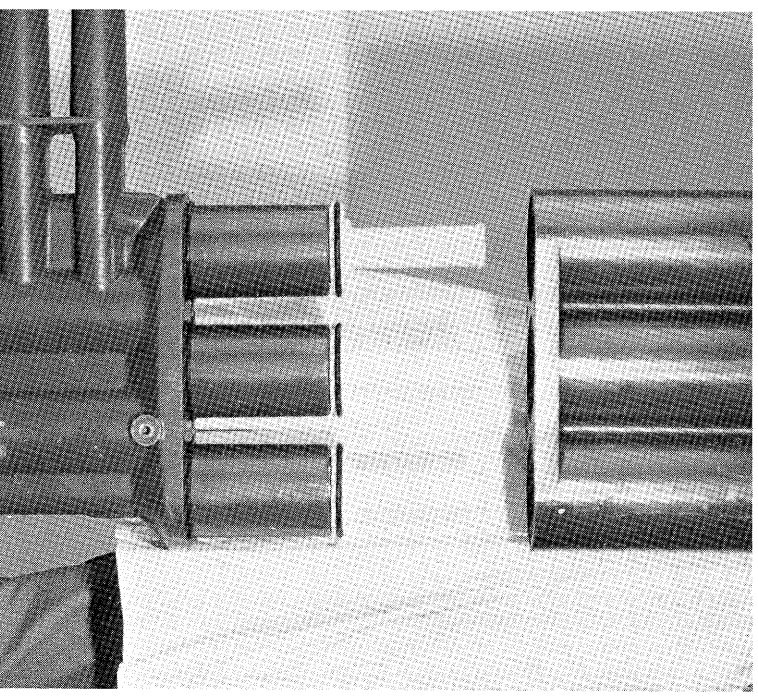
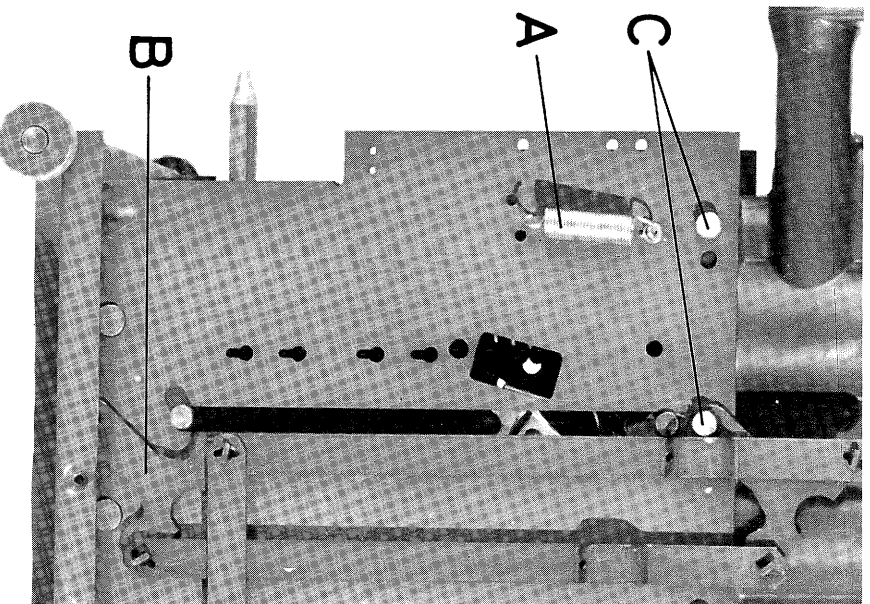

Fig. 34
Fig. 35
The switch shall remain on the truck. The upper insulation block (switch chamber) of the switch is separated from the lower insulation block, Fig. 34. The main tulip contacts with nozzles are now accessible. The centre pin, Fig. 4 (40), within the main tulip contact is unscrewed and removed (use a wire or the like). After removing the positioning spring, Fig 34 (A) and withdrawing the latch, Fig. 34 (B) the main contacts are pulled up and the contact rod is held firmly by means of a pair of tongs, Fig. 35. The hexagon nut at the bottom of the main tulip contact is now unscrewed by a box spanner 17 mm and the main tulip contact with nozzle is removed.
The lower insulation block of the switch is detached from the operating mechanism by removing of the fixing screws Fig. 34 (C).